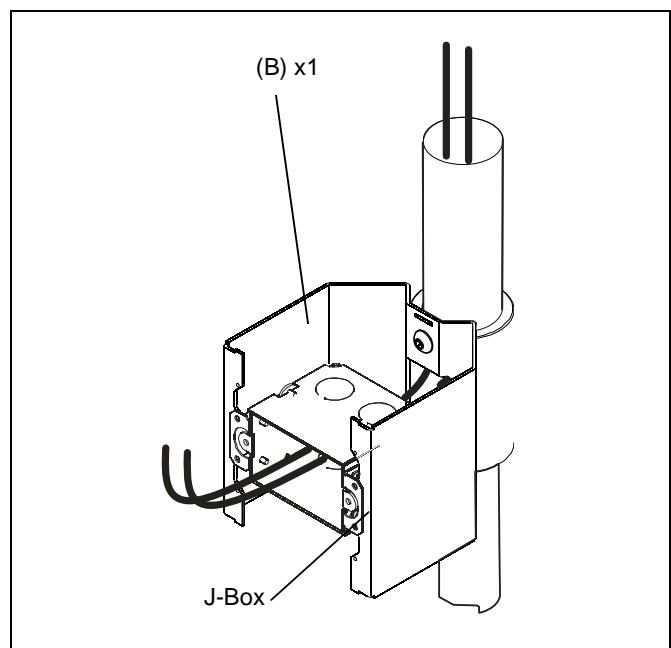

Figure 4
5. Align two mounting holes in J-Box with two center mounting holes in mounting plate (B). (See Figure 4)
6. Route wires through 1 1/2" NPT pipe, through hole in front of coupling (A) and into J-Box. (See Figure 4)